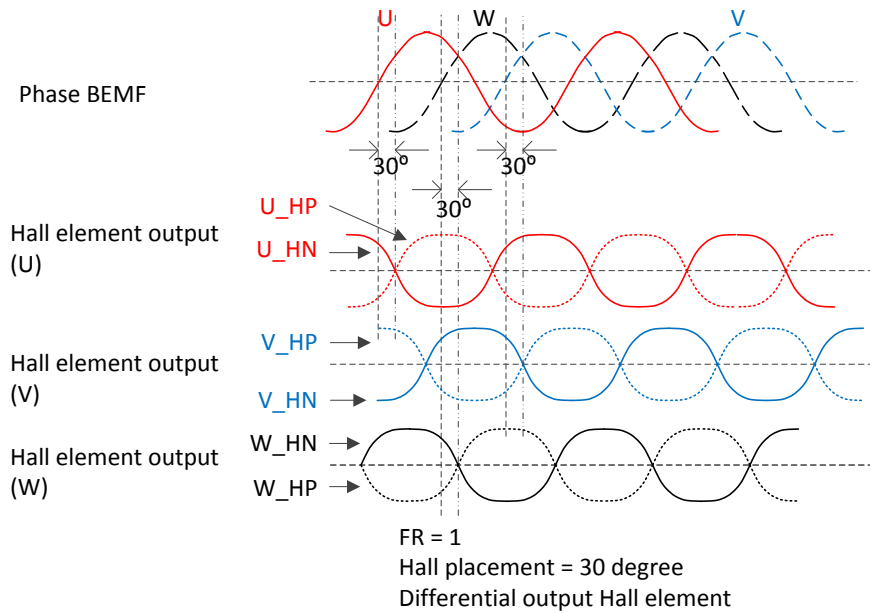
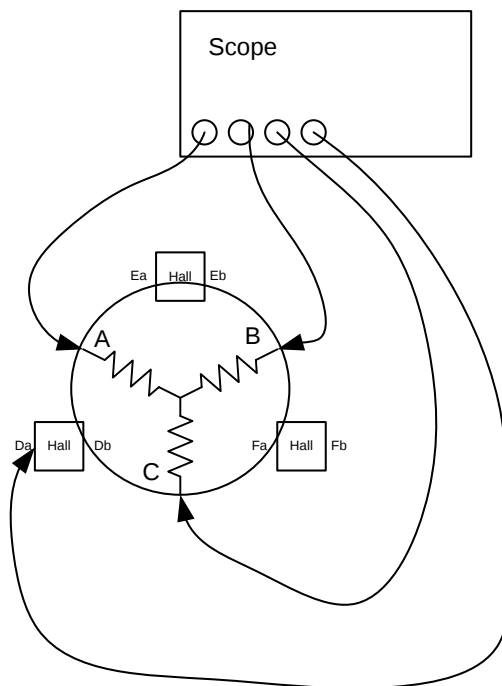

图 26. Correspondence Between Motor BEMF and Hall Signal (FR = 1, 30° Placement)
图 30. Motor Measurement
3. Phase U is leading phase W by 120°, phase W is leading phase V by 120°. The Hall signal positive output is 30° lagging of respective phase BEMF. Choose FR = 1 and 30° placement option (see 图 26).
5. Use 4 channel Scope to observe signals. Connect probe -1, 2, 3 to A, B, C terminals of the motor (phases), probe-4 connects to Hall Da (or D). Name the probe 1 (terminal-A) as U-phase. (see 图 30)
6. Turn the rotor manually in clock-wise direction. If the waveform on probe-1 (U-phase) is leading probe-2 (terminal-B) by 120° , name the terminal-B as phase W and terminal-C as phase V. Else if waveform on the probe-2 is leading probe 1 (U) by 120° , terminal-B as V, terminal-C as W. At this stage all three phases of the motor are identified.
9. After phase UVW and Hall UVW positive negative are identified, manually rotate the motor again, check if the result matches 图 24 and 图 25 (0° placement) or 图 26 and 图 25 (30° placement).